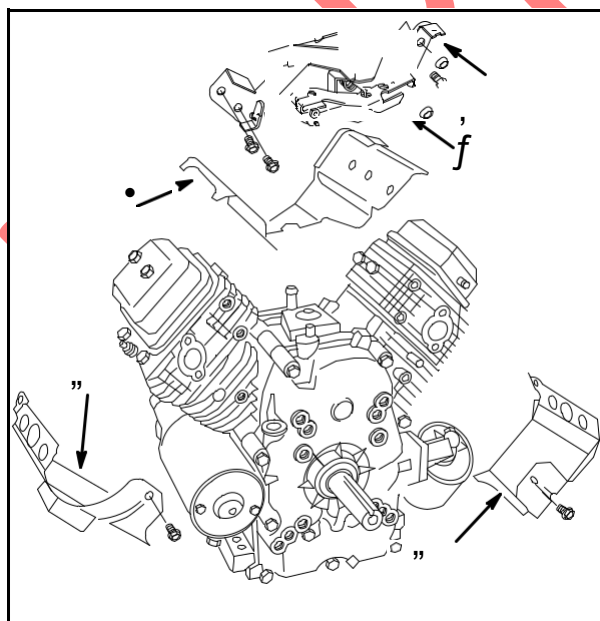

Fig. 21
Install cylinder shields (4) and valley cover (1), **Fig. 21**. Torque screws to **65 in. lbs. (7 Nm)**.